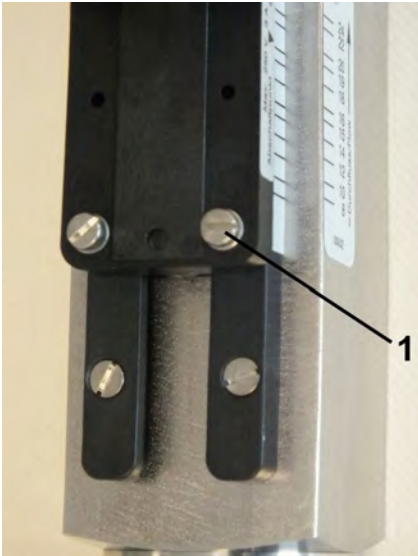

Fig. 31: Loosen set screws
1. ➤ Loosen the set screws of the switch contact (Fig. 31/1) using a flat-bladed screwdriver.
3. ➤ Re-tighten the set screws of the switch contact (1) using a flat-bladed screwdriver. When doing so, observe the correct tightening torque of the screws.